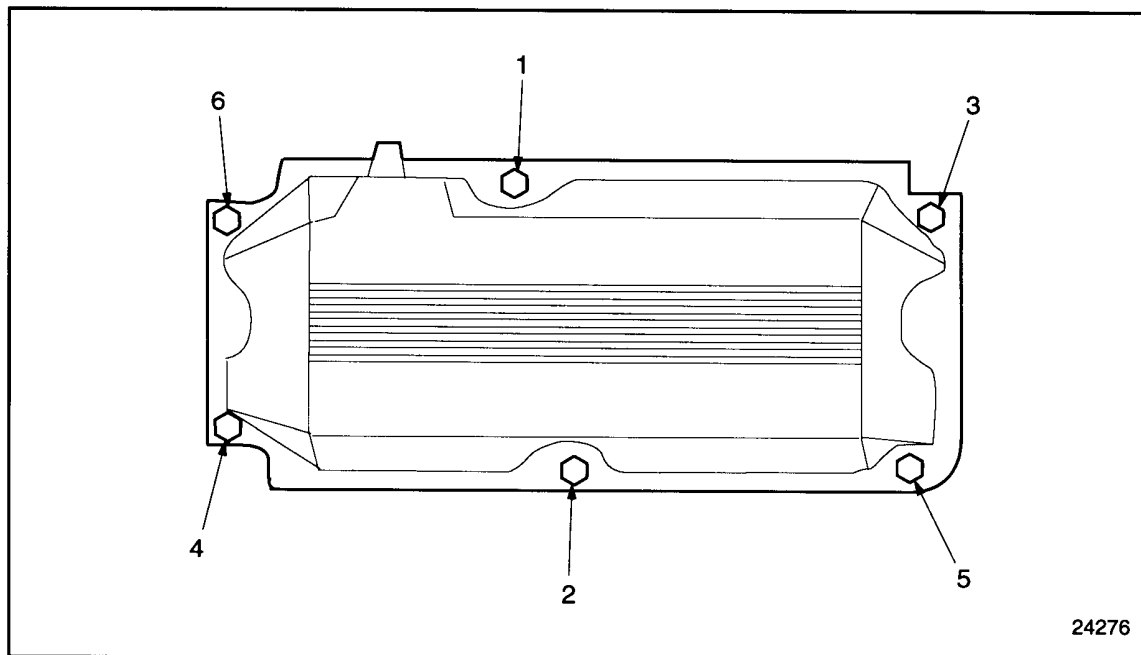

Figure 1-107 Rocker Cover Bolt Cap Tightening Sequence
2. Install the rocker cover cap to the base. Install the six bolts that attach the cap to the base, and torque to 22-25 N·m (16-18 lb·ft) using the torque sequence. See Figure 1-107.